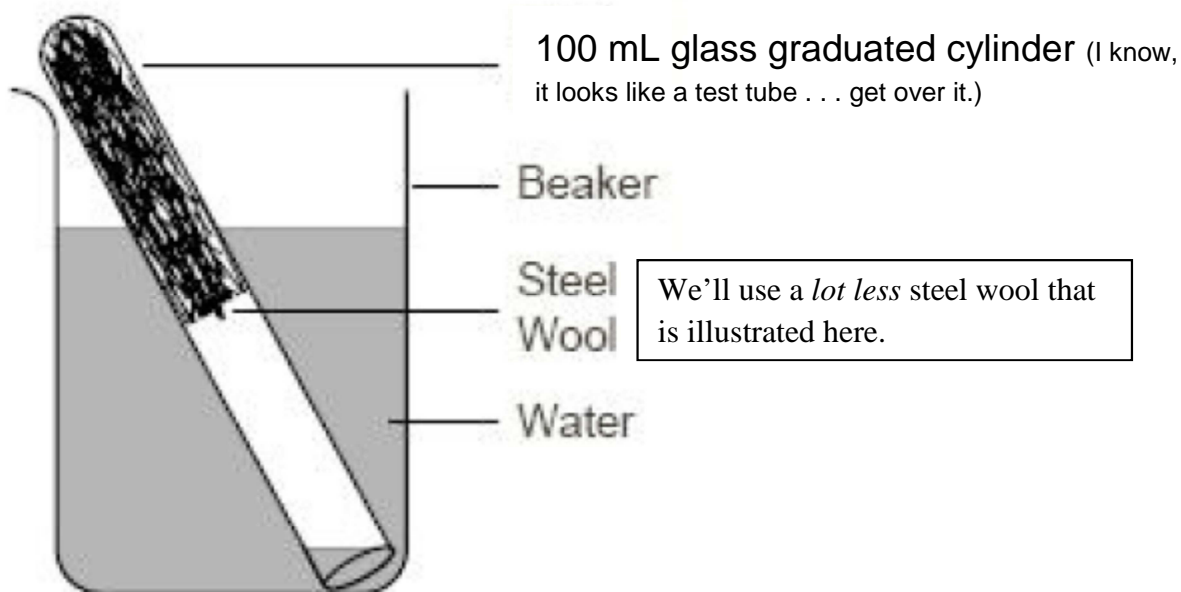

Figure 1. Experimental set up
The experimental apparatus is illustrated in figure 1. We will use a lot less steel wool—not much is required.
- Invert the graduated cylinder in the beaker of water as illustrated in Figure 1.